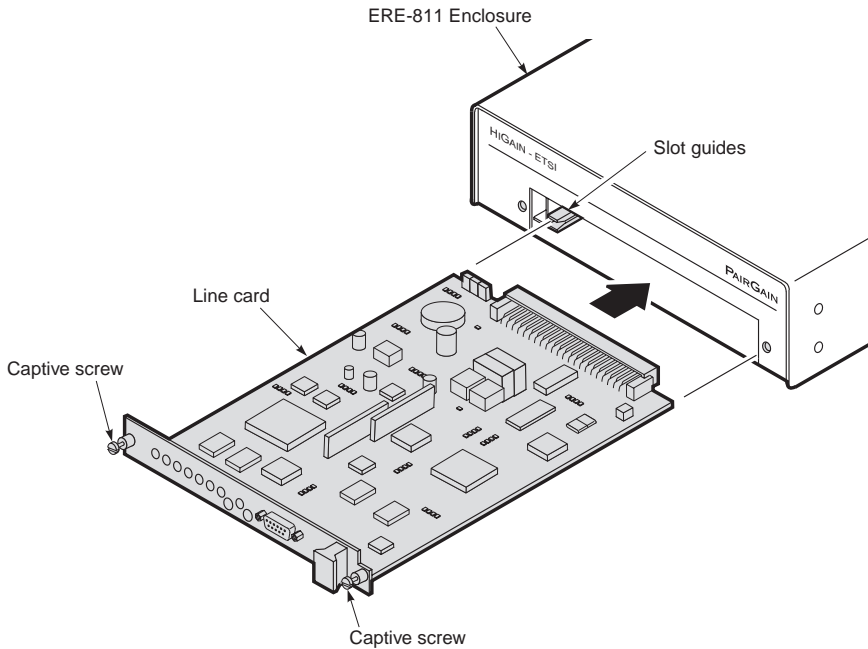

Figure 6. *Installing a UTU into the ERE-811 Remote Enclosure*
- 1 Align the card with the enclosure slot guides at the left and right sides of the enclosure opening (**Figure 6**).